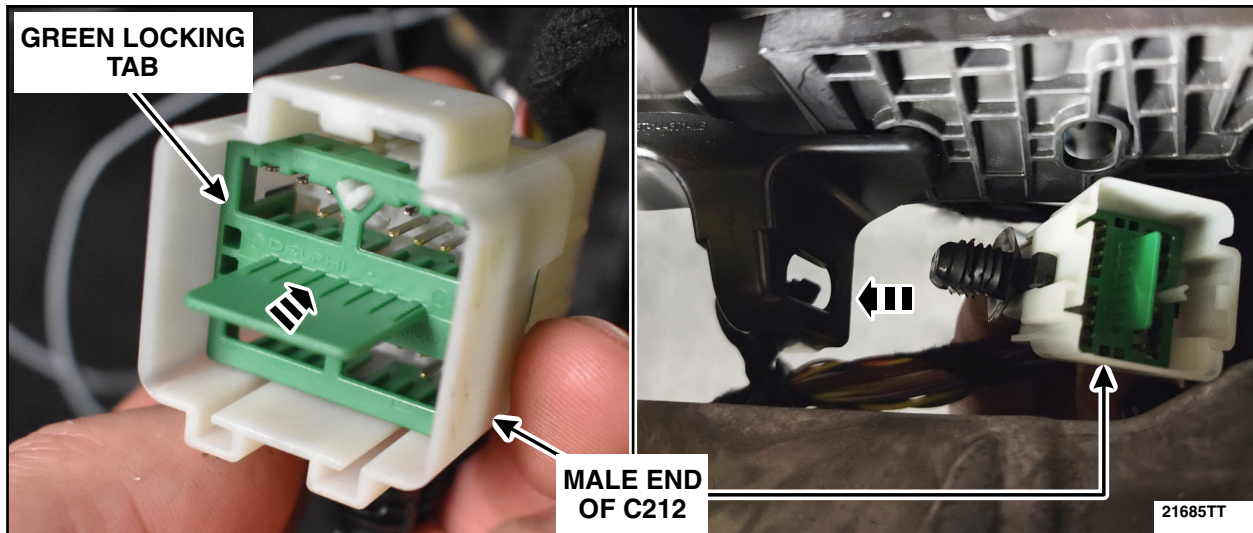

FIGURE 46
49. Reinstall the green locking tab, position back the push pin of the male end of C212 into the instrument panel bracket and reconnect the C212 electrical connector. See Figure 46.